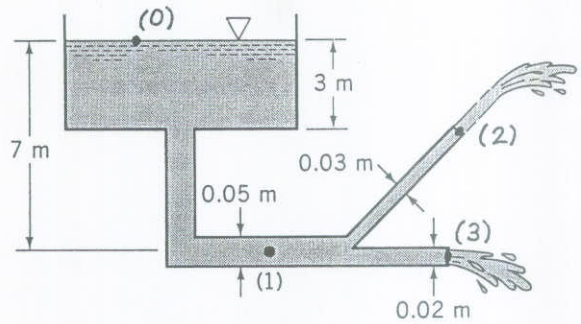

FIGURE P3.94
3.94 Water flows from a large tank through a large pipe that splits into two smaller pipes as shown in Fig. P3.94. If viscous effects are negligible, determine the flowrate from the tank and the pressure at point (1).